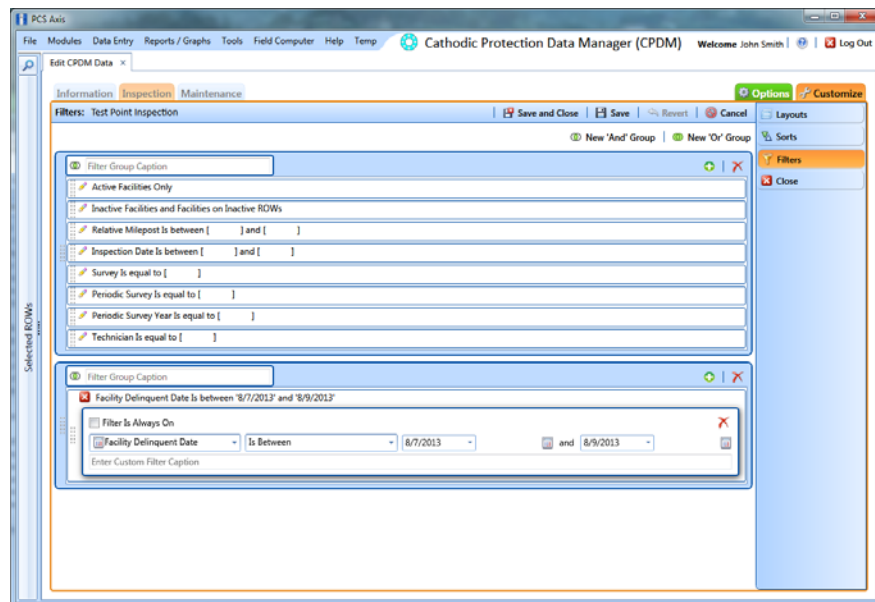

Figure 6-74. Filters
- 4 Click  **New 'And' Group** to open a filter properties group box (Figure 6-74, page 243).
- 7 If the AND filter group includes a date filter, such as *Facility Delinquent Date Is Between* shown in Figure 6-74, set a date range using a calendar or dynamic dates in the following manner: